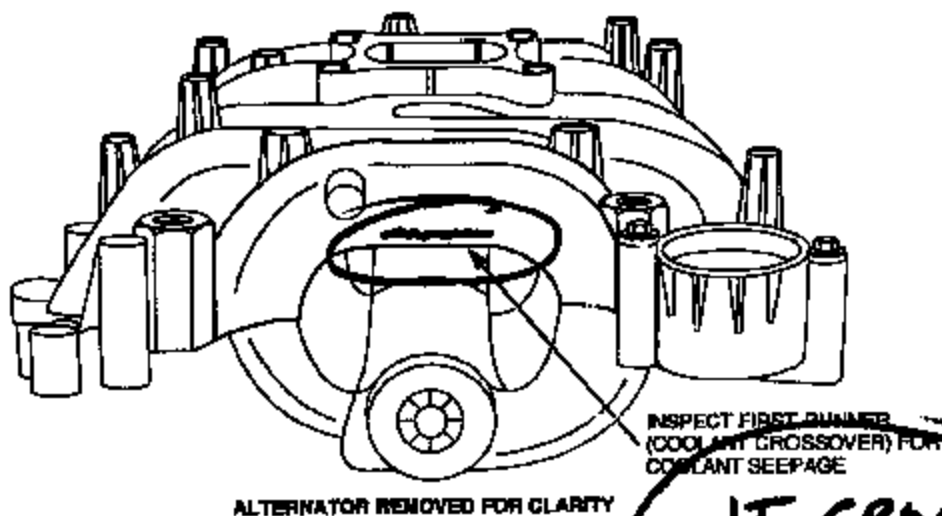

FIGURE 1
1. Inspect the coolant crossover area of the intake manifold as shown (refer to Figure 1) for engine coolant seepage. If seepage is present the intake manifold must be replaced.